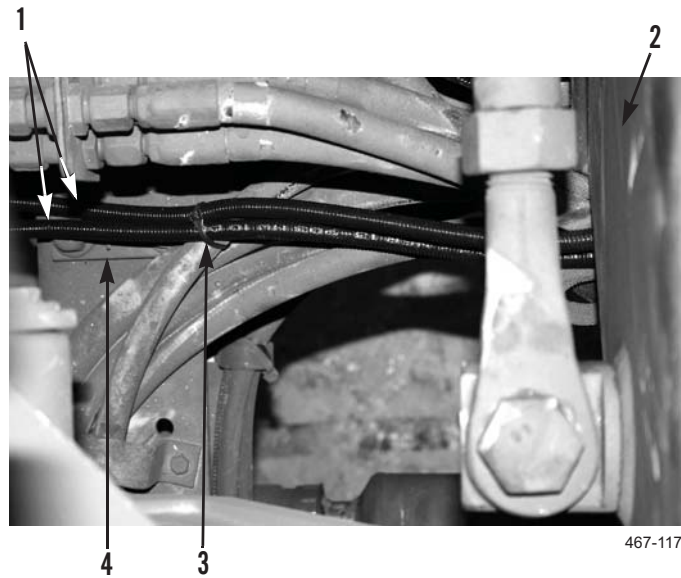

Figure 30. Twistlock Sensor Harness Installation.
21. Route RH and LH twistlock sensor harnesses (Figure 30, Item 1) from stowage assembly (Figure 30, Item 2), along interior of left side of frame (Figure 30, Item 4) to rear of vehicle. Route each sensor harness to rear of vehicle.
22. Install new tiedown straps (Figure 30, Item 3) as required to attach twistlock sensor harnesses (Figure 30, Item 1) to existing hoses along frame (Figure 30, Item 4).